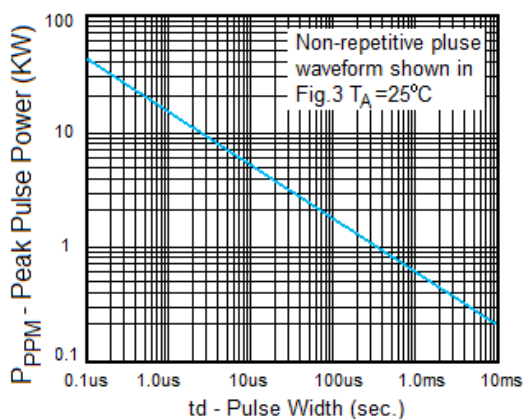

Fig. 1 Peak Pulse Power Rating
- (1) V_{BR} measured after I_T applied for 300 μ s., I_T = square wave pulse or equivalent.
- (2) Surge Current Waveform per Figure 5 and Derate per Figure 1
- (3) A Transient suppressor is normally selected according to the reverse " Stand-off Voltage " (V_{RWM}) which should be equal to or greater then the D.C. or continuous peak operating voltage level.
- (1) V_{BR} measured after I_T applied for 300 μs., I_T = square wave pulse or equivalent.